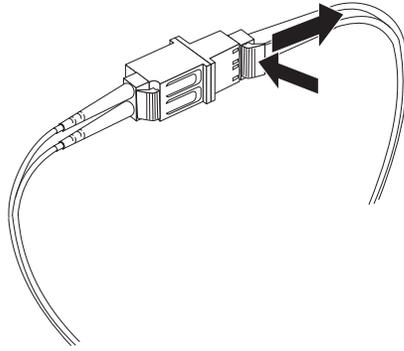

Figure 33. Removing the LC-LC Fibre Channel cable from an LC-SC Fibre Channel cable adapter
2. Carefully pull on the connector to remove it. Make sure you grasp the connector and not the cable when removing the LC-LC cable from the LC-SC cable adapter as shown in Figure 33 on page 37.